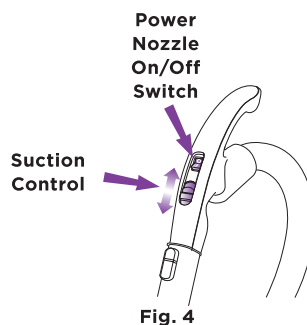

Fig. 4
- 4 Then turn the power nozzle 'On' using the switch on the flexible hose handle. (Fig. 4)
- 4 Open the suction control for low suction when doing light jobs such as drapes or fine surfaces and close it for high suction and when using the hand held turbo. (Fig. 4)